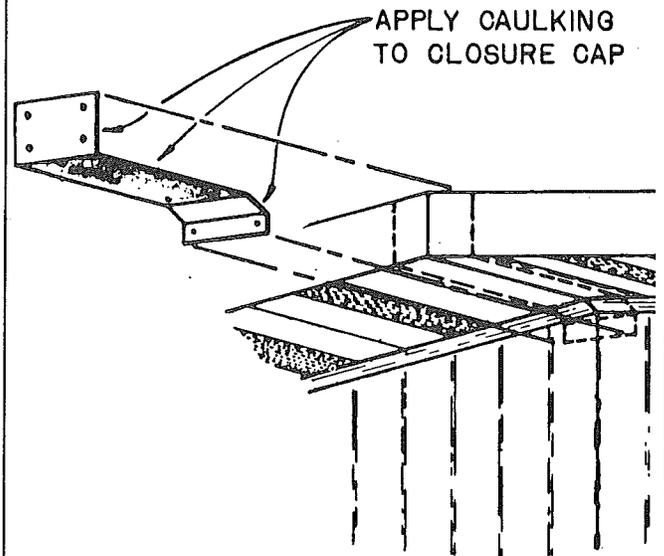

FIG. 5-26
10. Install closure cap at eave joint (See Fig. 5-26).